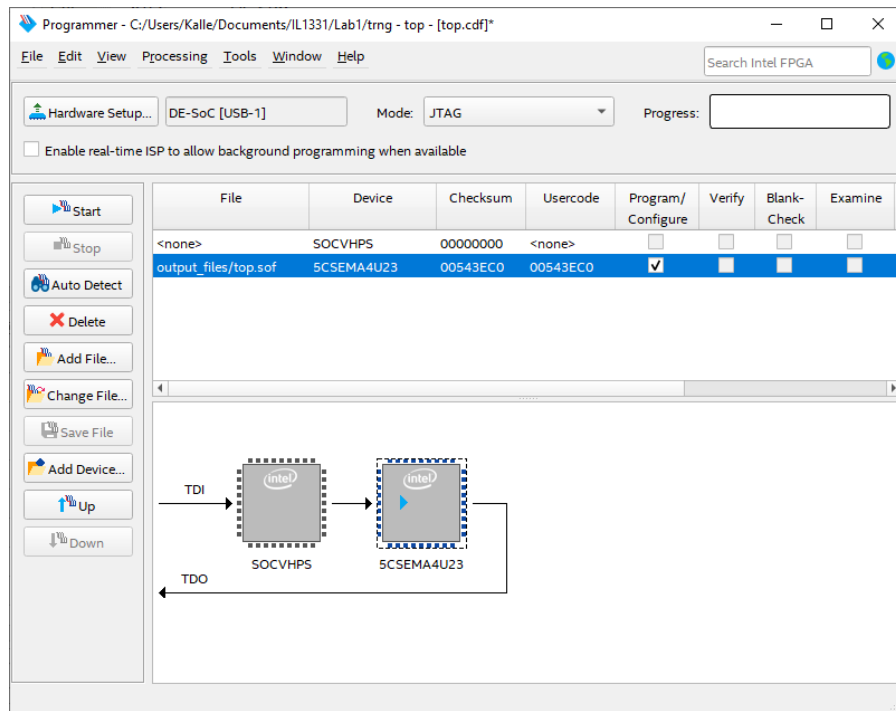

Figure 11: Quartus Prime Programmer Settings
- Tick the "Program/Configure" box. Settings should look like Figure 11